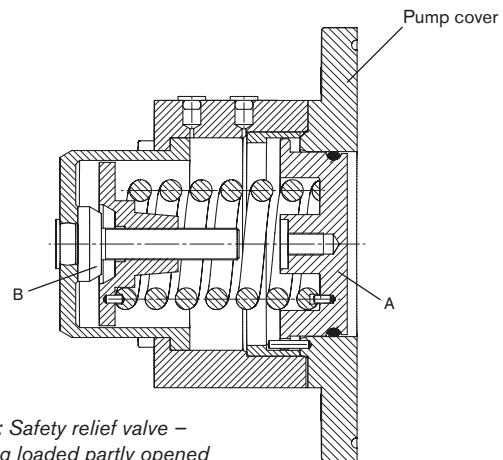

Fig 2: Safety relief valve –
Fig. 2 shows the valve partly opened. The medium pressure inside the rotor case has forced the valve head (A) to the left against the force of the spring.